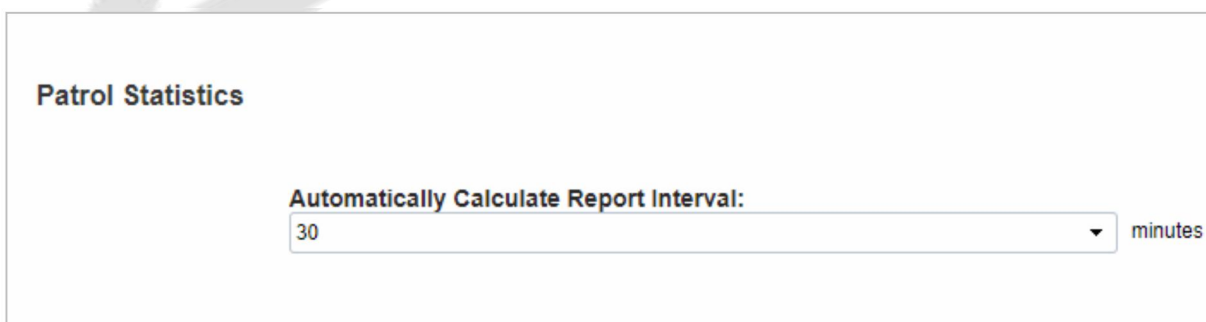

Figure 11-5 Parameters
Step 2: In the pop-up **New** window, configure the patrol personnel group information, as shown in Figure 11-5.